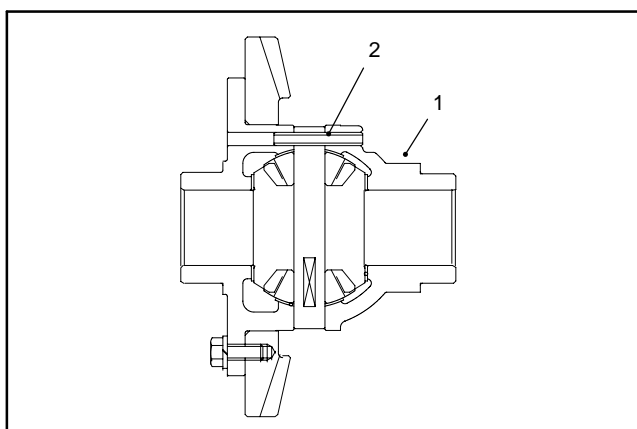

Figure 37
6. Drive the spring pin from the differential case with a punch and hammer. Discard the spring pin (Fig. 37).